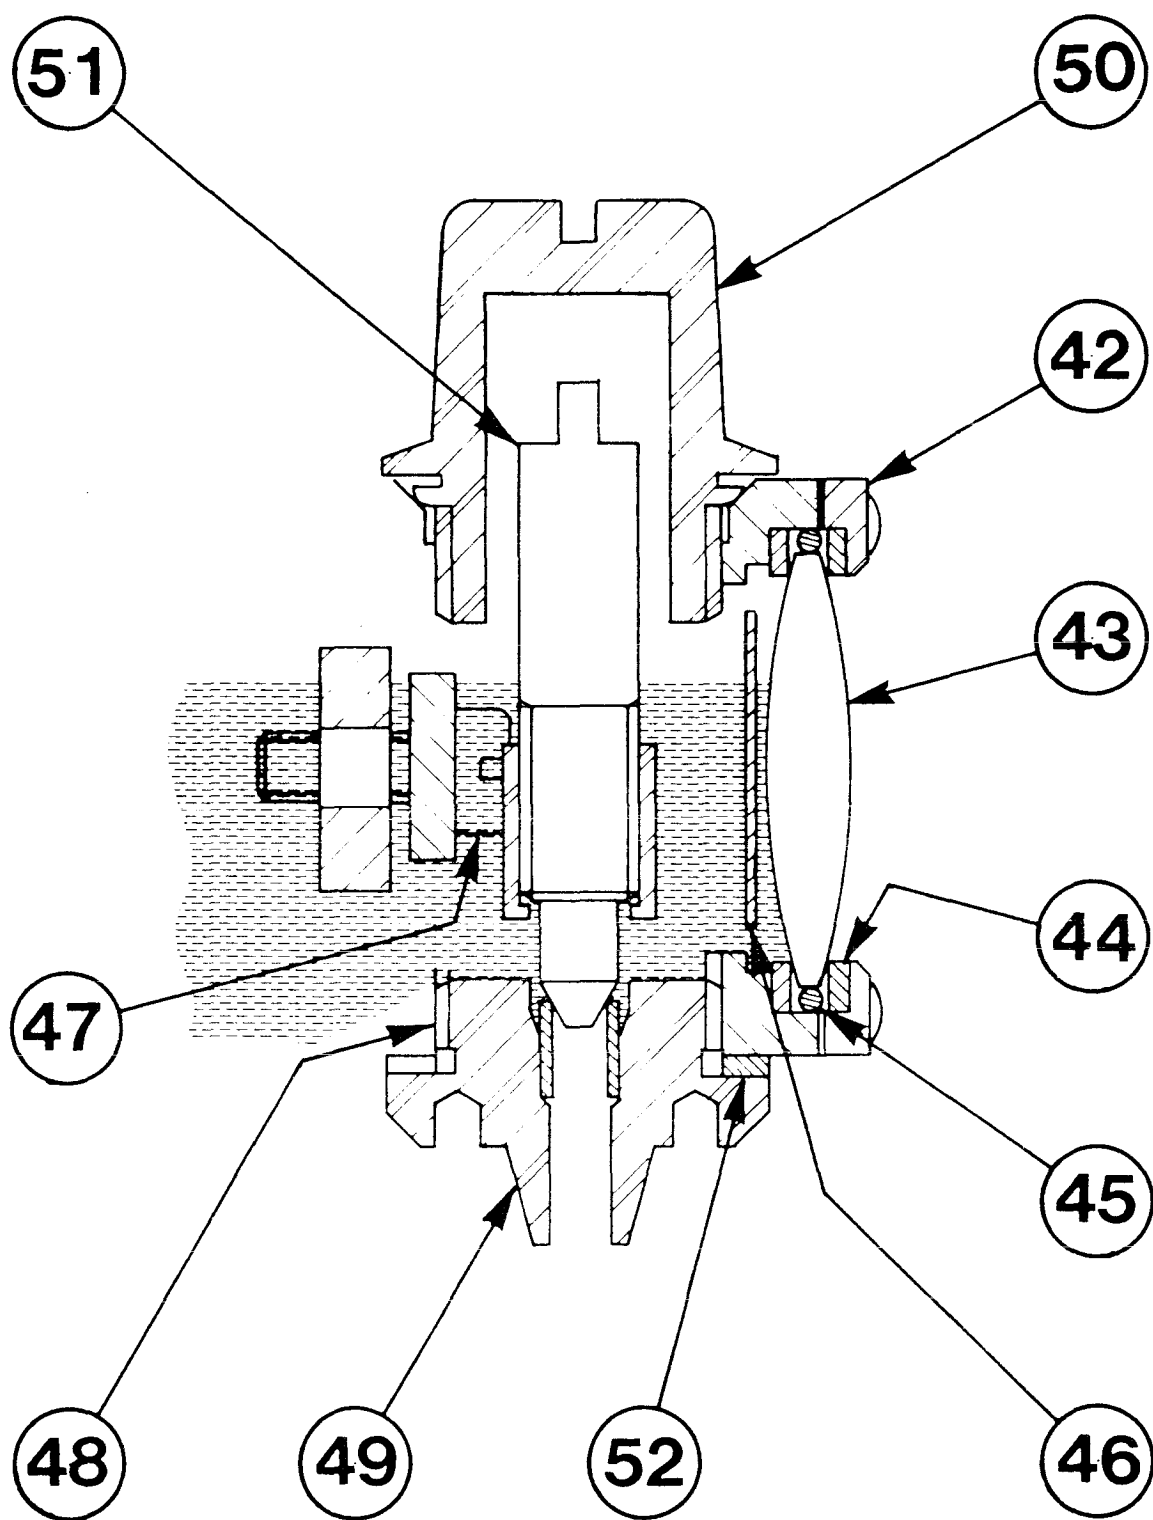

FIG 3
- Op. 6 If the indicator glass is still dirty after the above process, remove 4 screws (42) securing it, lift out glass and wipe clean. Replace ensuring that seals (44) and centring ring (45) are also replaced in correct position (see Fig. 3).